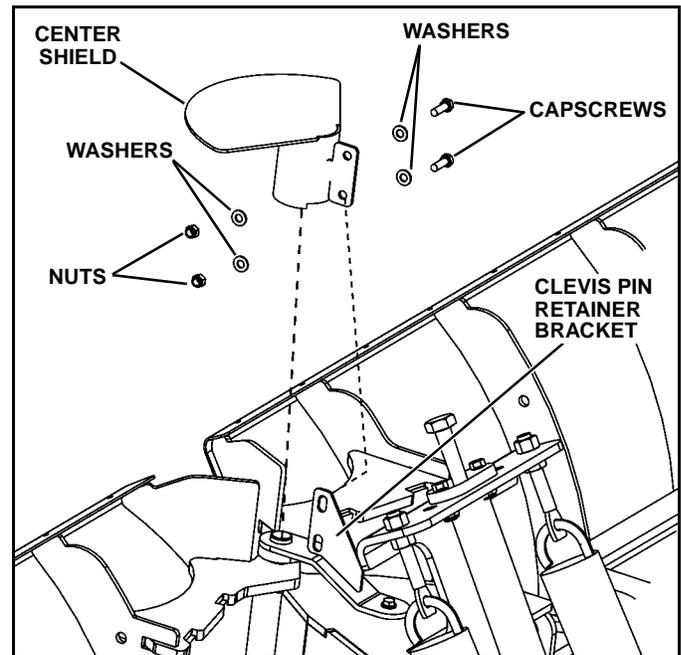

Figure 1-8
8. Install the center shield on the clevis pin retainer bracket, and secure with two 5/16-18 x 1" hex head cap screws (p/n 98009149), four 5/16" flat washers (p/n 98009024) and two 5/16" lock nuts (p/n 98009150). (See Figure 1-8)